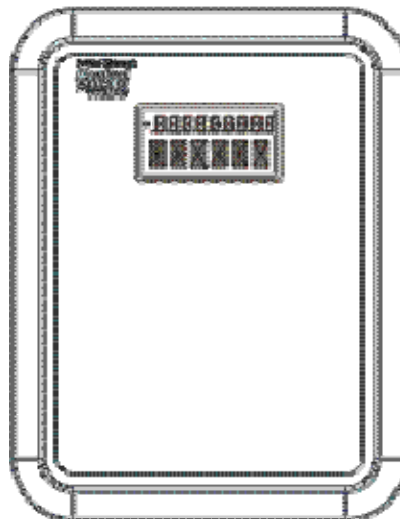

Figure 2-20. Display with No Keypad
- Display only (no keypad) – (see *Figure 2-20*)